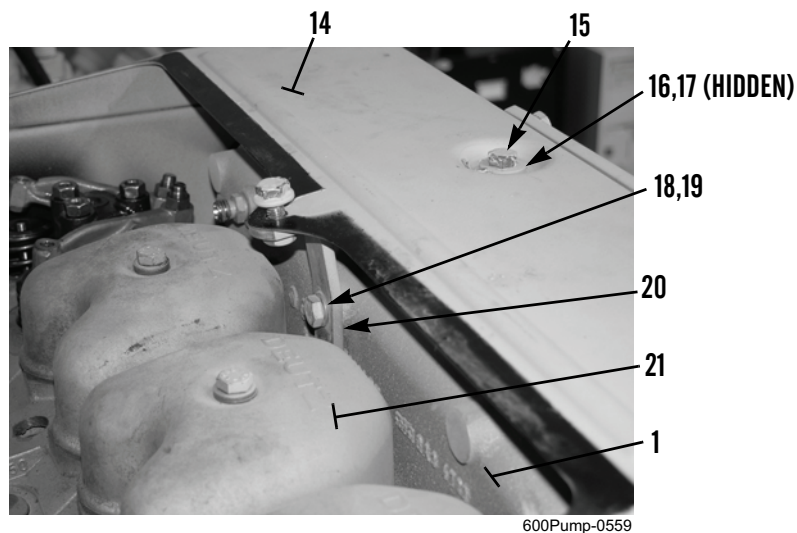

Figure 4. Upper Cooling Air Duct Panel and Intake Manifold.
4. Remove valve cover (Figure 4, Item 21) from 2nd cylinder head back from front of engine (WP 0079).
5. Remove two bolts (Figure 4, Item 18), washers (Figure 4, Item 19), and angle bracket (Figure 4, Item 20) from intake manifold (Figure 4, Item 1).
6. Remove bolt (Figure 4, Item 15), washer (Figure 4, Item 16), and spacer (Figure 4, Item 17) from upper cooling air duct panel (Figure 4, Item 14) and intake manifold (Figure 4, Item 1).